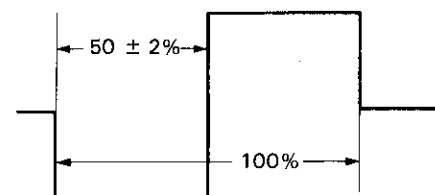

Figure 2-9.
3. Connect the oscilloscope to TP2801, then adjust C2804 (Write Clock ADJ) so that the waveform duty becomes 50% (see Fig. 2-9).
4. Connect the oscilloscope to TP2802, then adjust C2810 (Read Clock ADJ) so that the waveform duty becomes 50% (see Fig. 2-9).